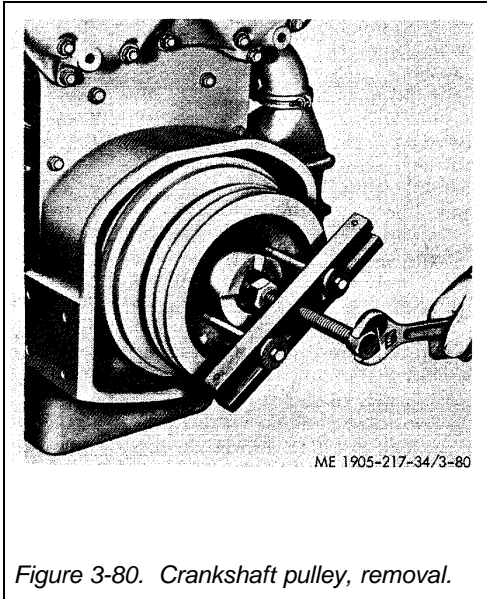

Figure 3-80. Crankshaft pulley, removal.
- (1) Remove the front power take-off (out-board engine only).
- (2) Remove bolt and washer from end of crankshaft. Partially reinstall the bolt.
- (3) Use a puller as shown in figure 3-80 to remove the pulley.